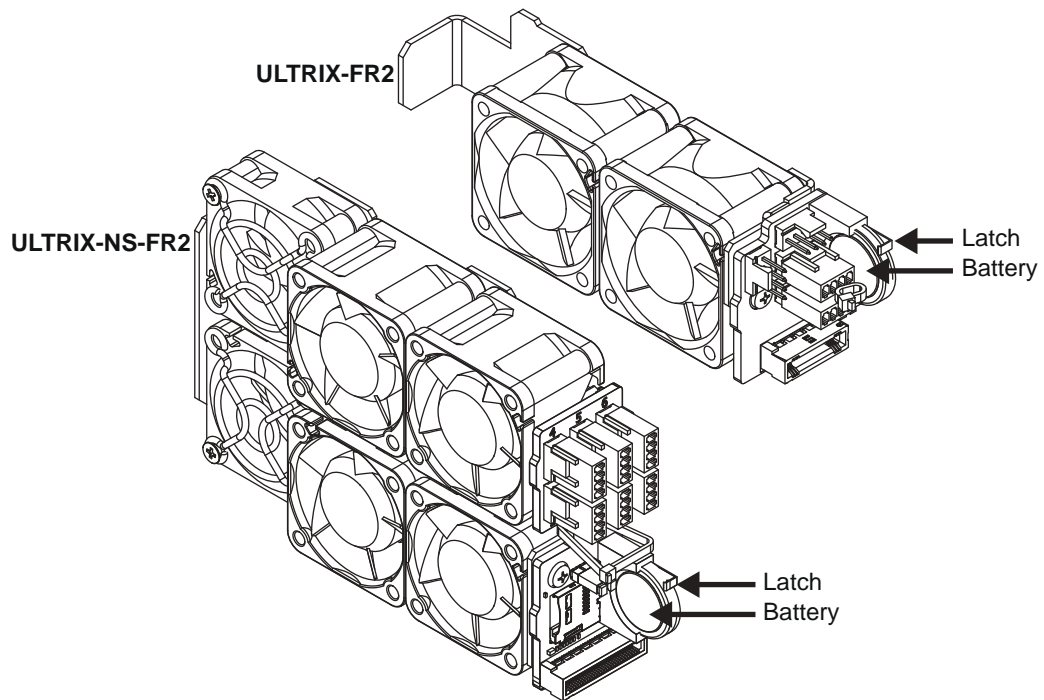

Figure 82 Battery Location inside the Cooling Fan Module — ULTRIX-FR2 and ULTRIX-NS-FR2
1. Locate and note the orientation of the failed battery inside the Cooling Fan Module. (**Figure 82**)